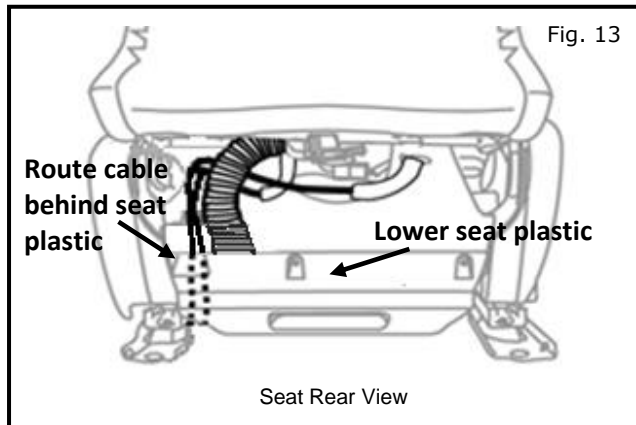

Fig. 13
- 19) Group two headrest cables to outboard side of vehicle by routing cable with red barrel connector toward cable with white barrel connector. Route cables along side of HVAC ducting and following factory cables behind hard plastic of lower seat. Figure 13